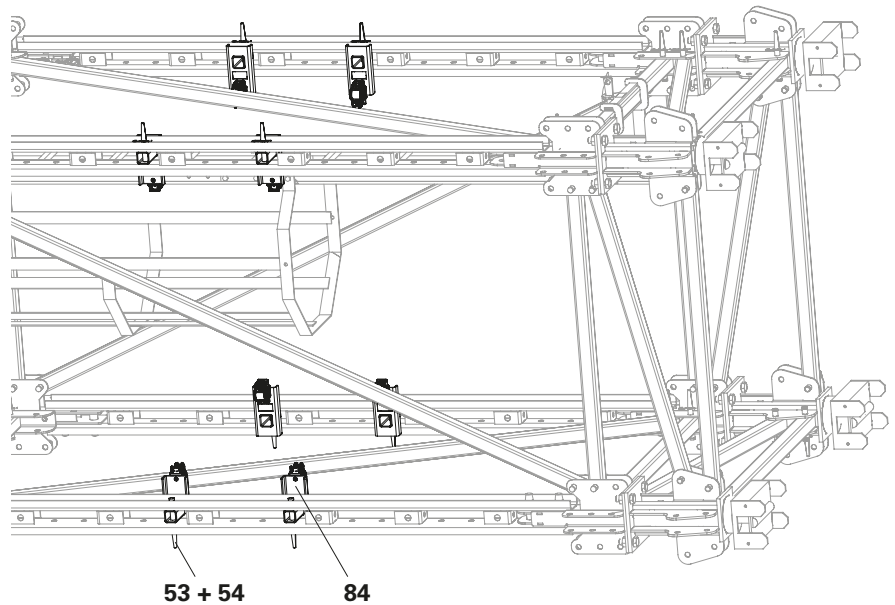

Fig. A1.46
1. Fix 2x Scaffolding Connector Alpha (**84**) to each vertical respectively using 1x fitting pin Ø 21 (**53**) in each case and secure with cotter pins 4/1 (**54**). (Fig. A1.46)